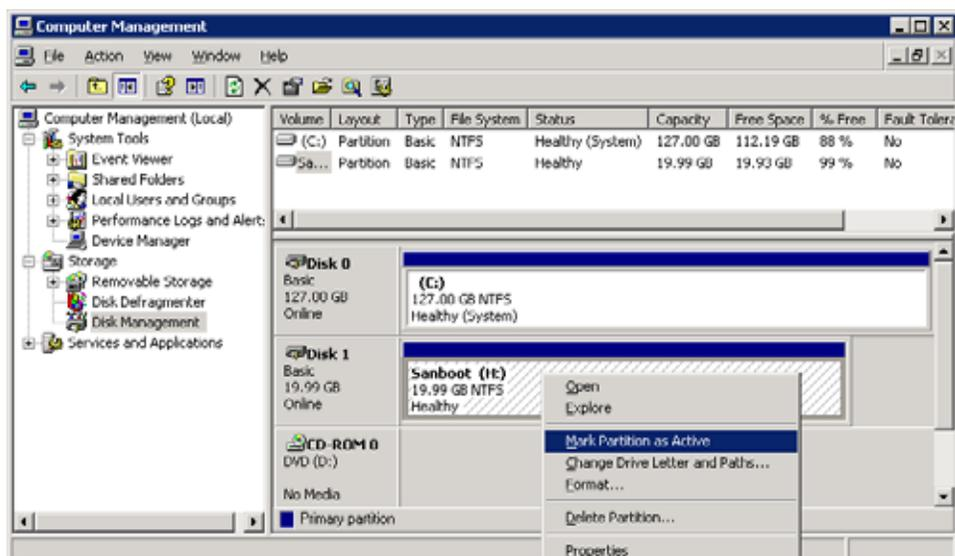

Figure 5 Server Manager — Marking Partition Active
Step 11 Right-click the newly created volume and select “Mark Partition as Active” as shown in Figure 5.